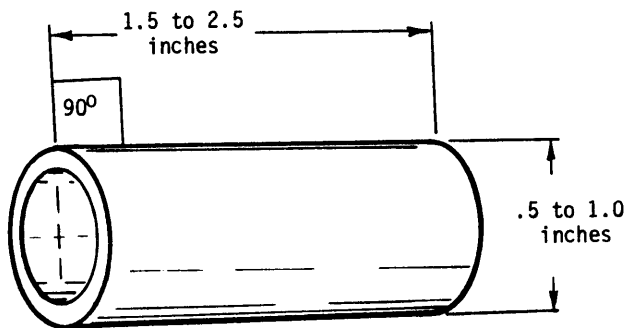

Figure 2. Tube for reducing parallax error.
A. Replace the clear graticule with the appropriate CRT scale for the given instrument's option. Use the 337-2537-05 scale for an Option 1 product. Use the 337-2537-01 for all others. Place the silk-screened side of the scale against the CRT faceplate to reduce parallax. As a further aide to reducing parallax error, the calibrator may wish to sight through the center of a small plastic or cardboard tube held firmly against the faceplate or scale. Such a tube may be found as the core of a small spool of printer paper. The core of a Tek 31 thermal printer paper spool (006-1775-00) may be used. Any tube similar to that depicted in Figure 2 will suffice provided the end is cut perpendicular to the axis.